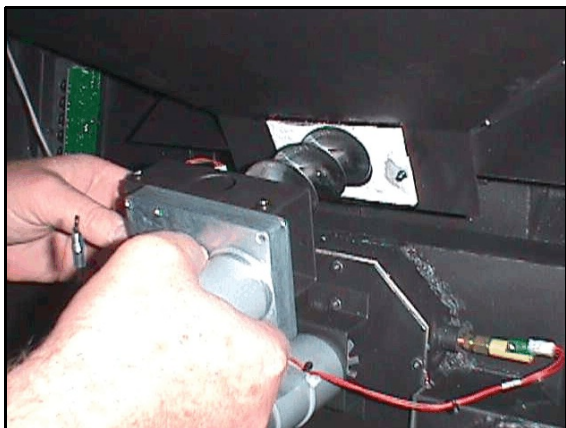

Figure 1
- 1) Remove the units rear panels to gain access to the feed drive. Empty the hopper of fuel. Loosen and remove the wing nuts. Lower the feed drive from the hopper (**Figure 1**). Remove old gasket.